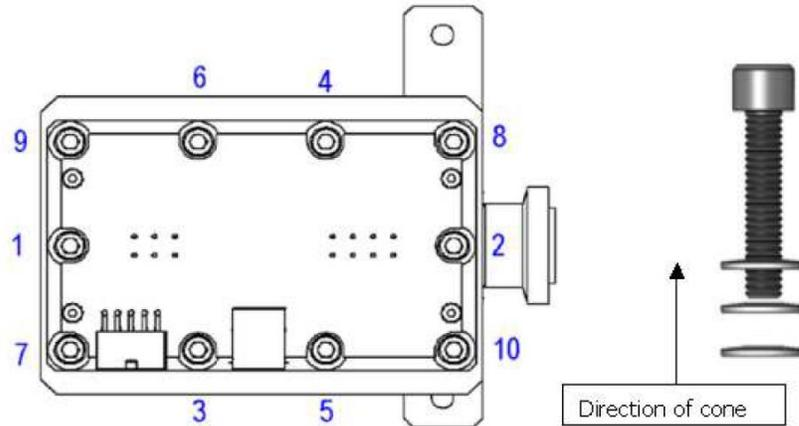

Figure 2-9. Tightening spectrometer header screws
20. Insert a screw with three Belleville washers into each hole and finger tighten (see Figure 2-9).
21. Follow the torquing pattern in Figure 2-9. Torque screws to 40 in-lbs (4.5 N-m).
23. Wait a minimum of five minutes, then torque the screws again in the same pattern (Figure 2-9) to a value of 90 in-lbs (10.2 N-m). This wait period allows the washers to decompress.
23. Follow the torquing pattern in Figure 2-9. Torque screws to 40 in-lbs (4.5 N-m).